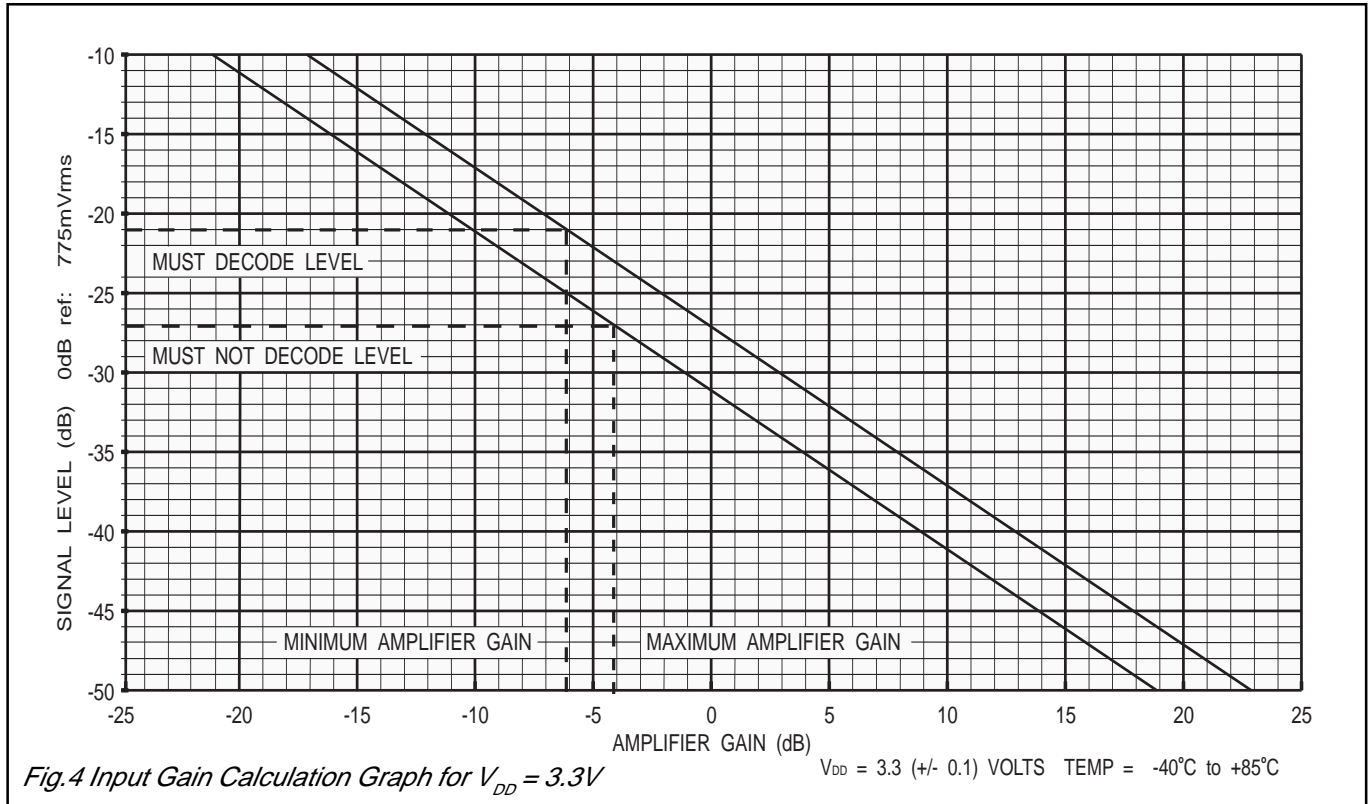

Fig.4 Input Gain Calculation Graph for  $V_{DD} = 3.3V$
- The values of the Input Amp gain components illustrated are calculated using the Input Gain Calculation Graphs (Figures 4 and 5). Whilst calculating input gain components, for correct operation, it is recommended that the values of resistors R1 and R4 are always greater than, or equal to, 33kΩ.
With reference to the graphs in Figures 4 and 5, the following steps will assist in the determination of the required gain/attenuation.
It is recommended that the designed gain is near the centre of the calculated range. The graphs in Figures 4 and 5 are for the calculation of input gain components for an FX631 using a  $V_{DD}$  of 3.3 ( $\pm 0.1$ ) or 5.0 ( $\pm 0.5$ ) volts respectively.